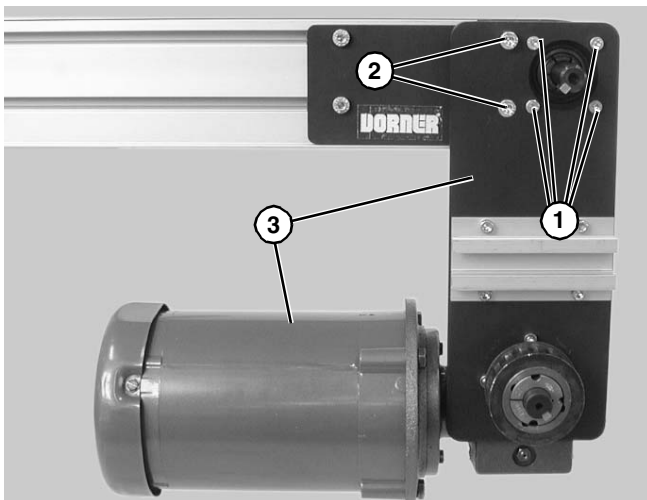

Figure 63
- e. Remove four (4) M5 mounting screws (**Figure 63, item 1**) and two (2) M8 mounting screws (**Figure 63, item 2**).
- f. Remove gearmotor and mounting plate assembly (**Figure 63, item 3**).